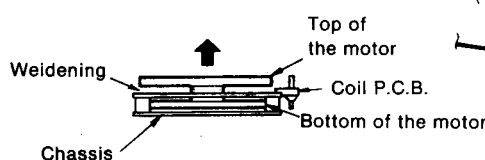

Fig. 11
- When install the belt to motor, push up the motor by insert the non-magnetic material sheet between bottom of the motor and the chassis, and install the belt between top of the motor and the coil P.C.B. (See Fig. 11, 12)